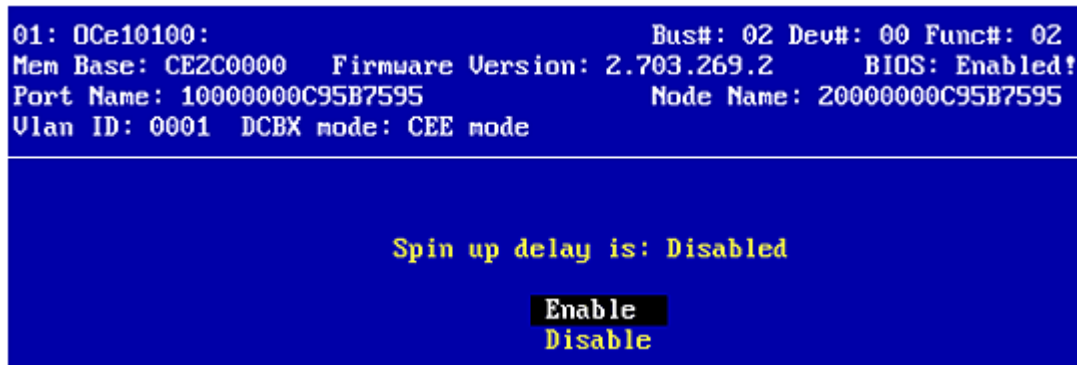

Figure 5-21 Enable or Disable Spinup Delay Screen
2. Select **Enable or Disable Spinup Delay** and press **<Enter>**. Information similar to Figure 5-21 is displayed.